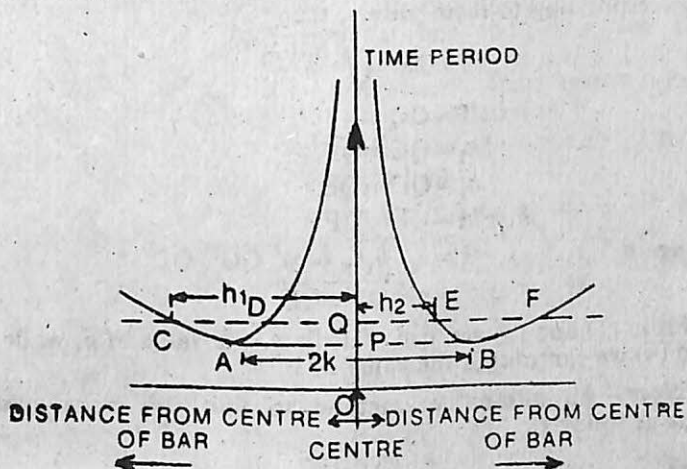

Fig. 21.2.
graph be plotted taking the periods of oscillation as ordinates and corresponding distances of the axis of suspension from the C. G. of the bar as abscissae, a graph of the type shown below (Fig. 21.2) will be obtained :
(iv) Join A and B (See Fig. 21.2). The line AB cuts the T-axis at P. The abscissa of P gives the position of the centre of gravity of the bar. Draw any line CDEF perpendicular to the T-axis and cutting the curve in four points C, D, E and F. Measure QC and QF (the mean of which gives h_1), QD and QE (the mean of which gives h_2), and also OQ (which gives the corresponding periodic time T). Then from the formula (3) given above calculate the value of g.